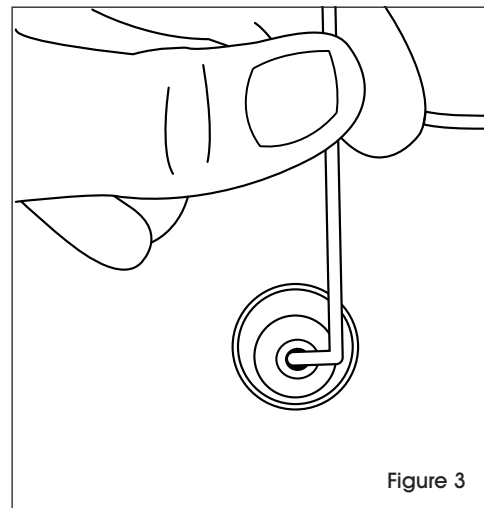

Figure 3
3. Line up prong of handle with the front of the hole. (See Figure 3)
(Voir Figure 3)